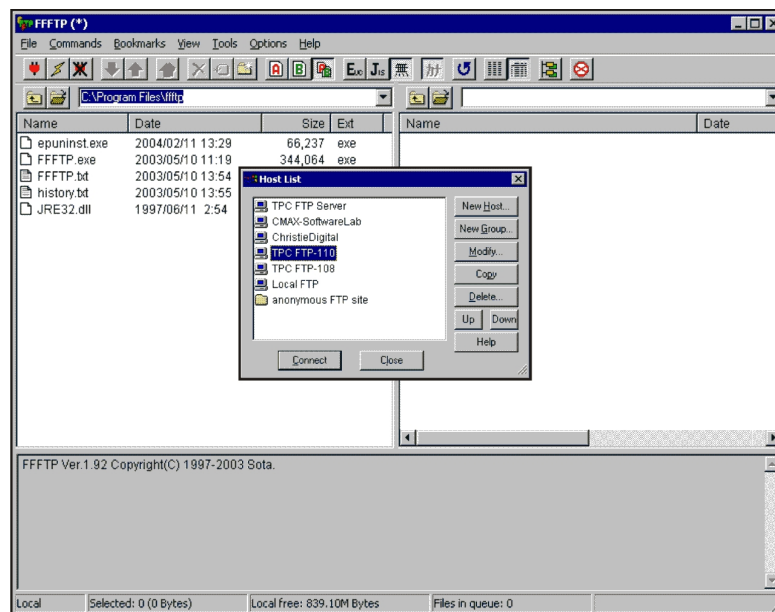

Figure 3-42 Main FFTP Window with Host List
1. Run FFFTP on a PC that is connected to the same network as the TPC. At the main window, click the **Connect** icon or **File Connect** menu. The **Host List** box should appear (**Figure 3-42**).